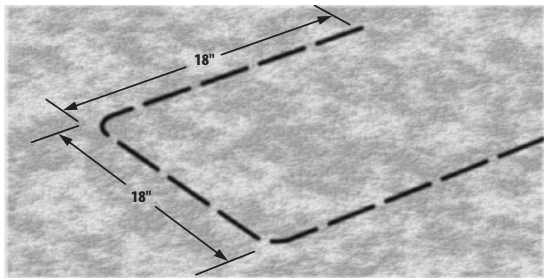
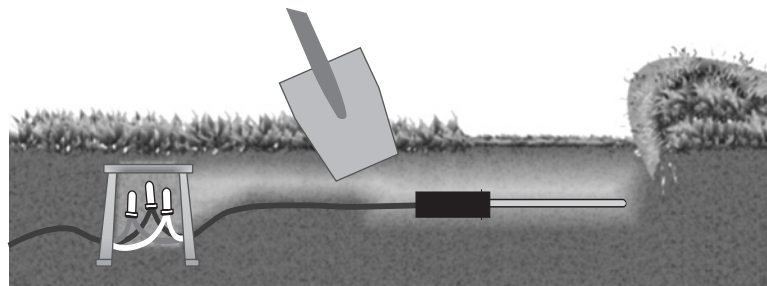

Figure 3
Figure 4
- Using a flat bladed shovel, define three sides of a square 18" wide by 18" in length and 6" deep. This slit should be U shaped (see figure 3). Work the shovel under the sod at a depth of about 4 inches and roll back the sod leaving exposed soil 3 to 4 inches deep. About 6 inches from one side of this opening, dig a similar opening and hole to accommodate a 7" valve box. This valve box (wiring box) will be used to splice additional wire from the sensor to the zone wire identified in Step 3. Dig a slit trench from the 7" wiring box location to the base of the 18" square opening created for the sensor (see Figure 4).